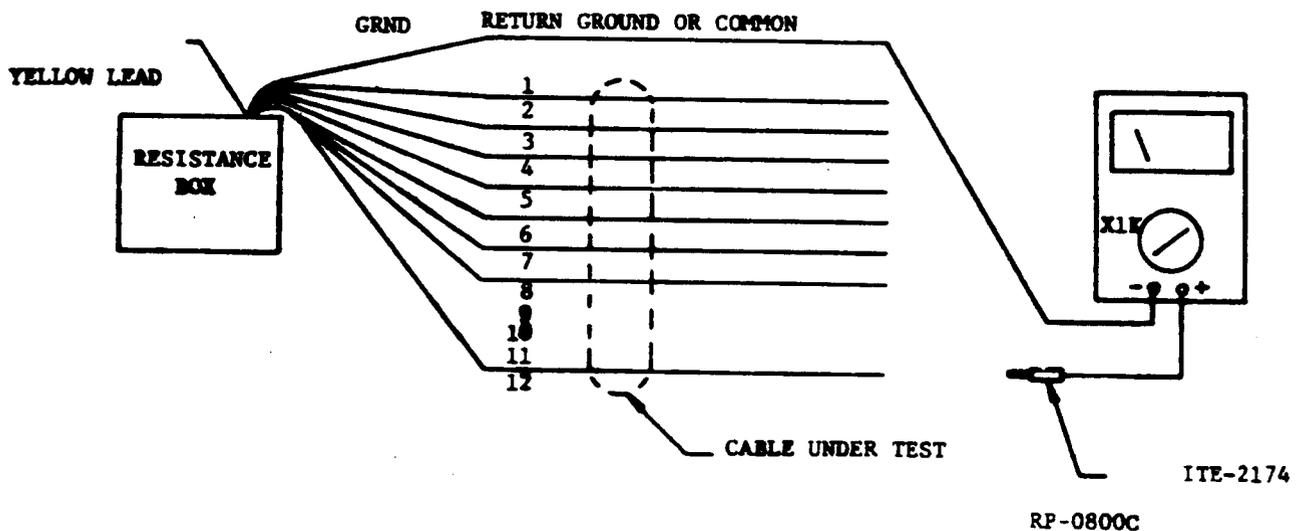

FIG. 8
9.236 Connect the resistance box leads, 1 through 12, to the cable leads under identification. Use the VOM or meter and identify leads 1 through 12 at the remote cable end, using the meter scale marked 1 through 12. Repeat in groups of 12 or less until all leads have been identified (FIG. 8).